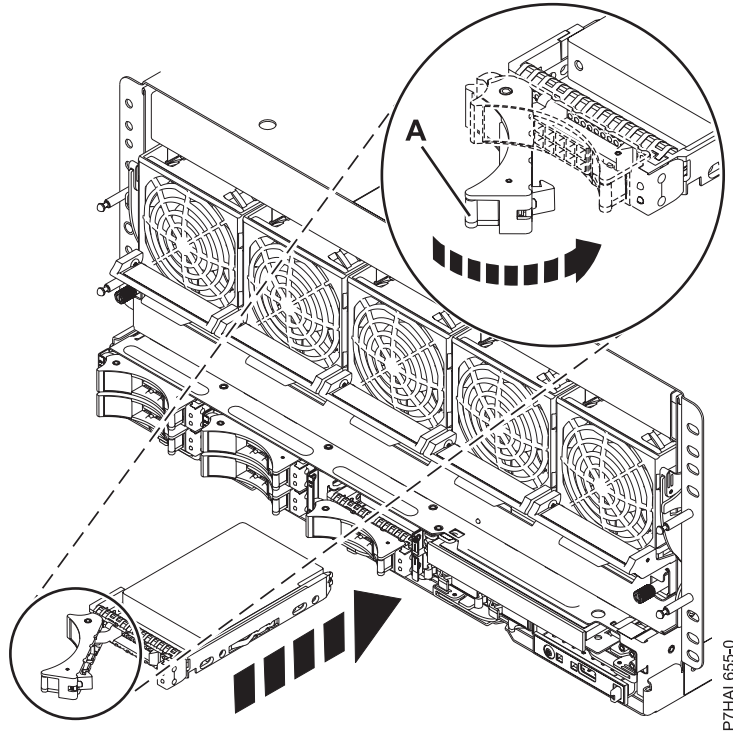

Figure 14. Installing the disk drive in the system
3. Unlock the drive handle (A) by squeezing it and pulling it out toward you. If the handle is not all the way out, the drive does not slide into the system or expansion unit.
5. Slide the drive all the way into the system or expansion unit, and push the drive handle (A) in until it locks. See Figure 14 on page 25 showing installing a drive in the system.